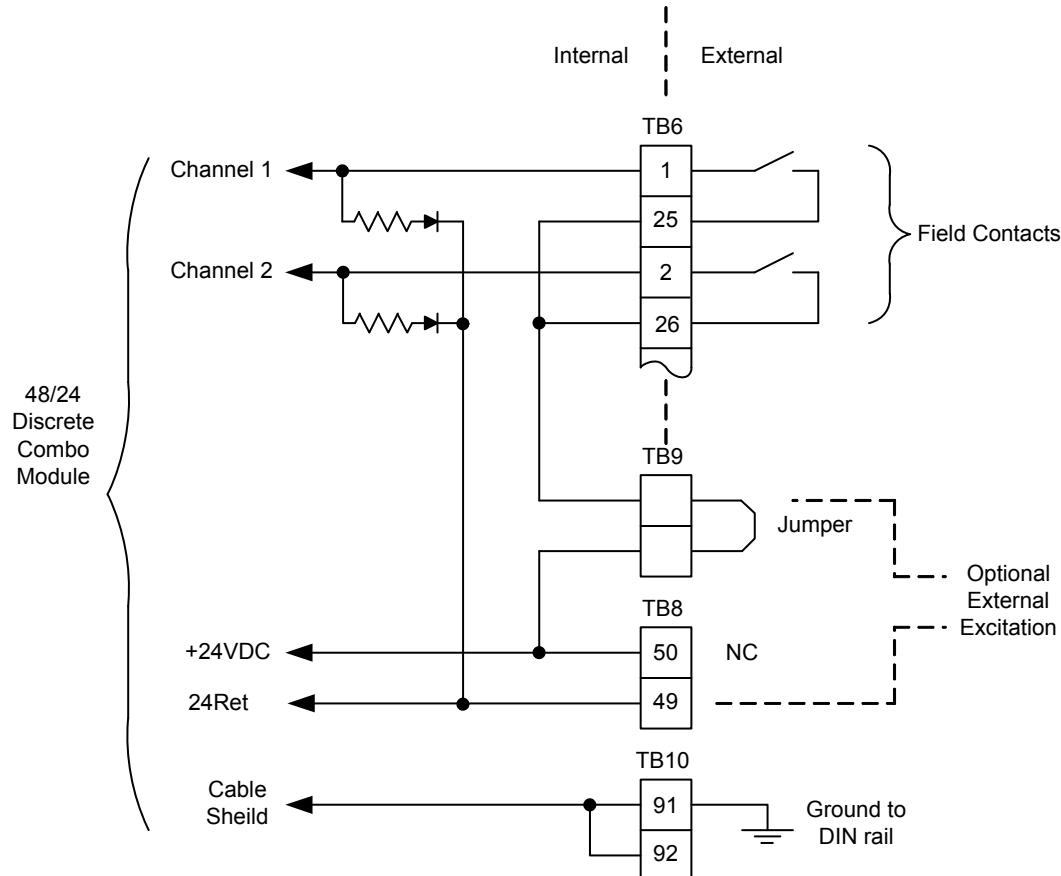

Figure 4-12. Discrete Input Wiring to a 24/12 Discrete FTM
The 24 contact inputs found on a Discrete FTM are located on terminals TB6, 1 - 12 and TB7, 13 - 24. When internal power is used, wetting voltage is taken from terminals TB6, 25 - 36 and TB7, 37 - 48. See Figure 4-12 for a wiring example.
- Refer to Figure 4-12 for Contact Input wiring connections to the FTM.
- If the internal 24 Vdc is used, a jumper must be added to tie the internal 24 Vdc to the bussed power terminal blocks (see Figure 4-12).
- If an external 24 Vdc is used, the common for the external 24 Vdc must be tied to the discrete input common (see Figure 4-12). Power for contacts must be supplied by the control's power supplies, or the external power supply outputs must be rated to Class II at 30 Vdc or less and outputs must be fused with appropriately sized fuses (a maximum current rating of 100/V, where V is the supply's rated voltage, or 5 A, whichever is less).